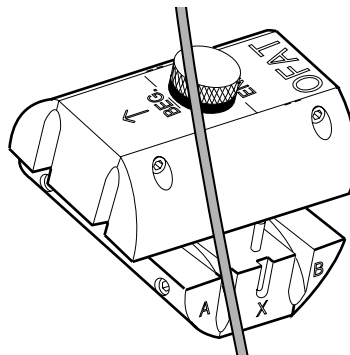

Figure 3
- If the buffer tube fits in "A", then use groove "A" when following the instructions in Section 4 (Figure 3).